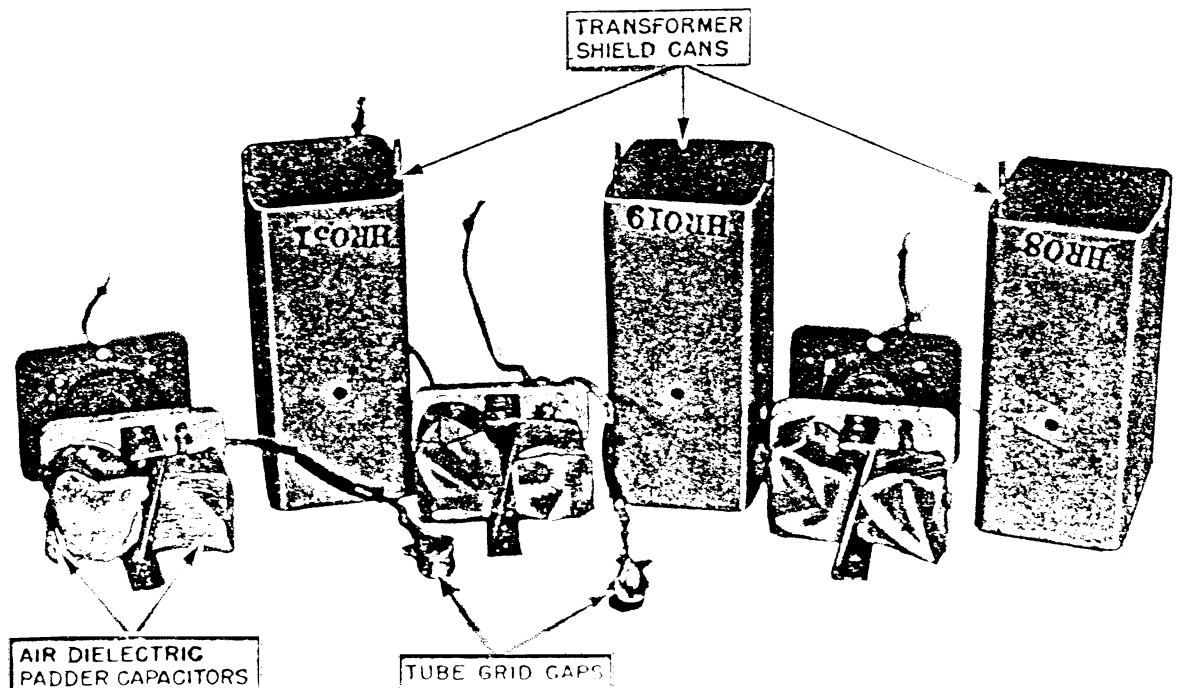

Figure 25. Masking of intermediate transformers of the receiver.
(2) Remove receiver from case.
(3) On the underside of the chassis, unsolder the leads of the three i-f transformers.
(4) Remove mounting nuts and lift the shield cans from the chassis.
(5) Unscrew the four cap screws located on the sides of transformer shields and lift out transformer assembly.
d. MASKING (fig. 25). Cover the air dielectric padder capacitors and tube grid caps with masking tape.
f. VARNISHING. (1) Apply three coats of moistureproofing and fungiproofing varnish (Lacquer, Fungus-resistant, stock No. 6G10-05.3, or equal). Allow each coat to dry for 15